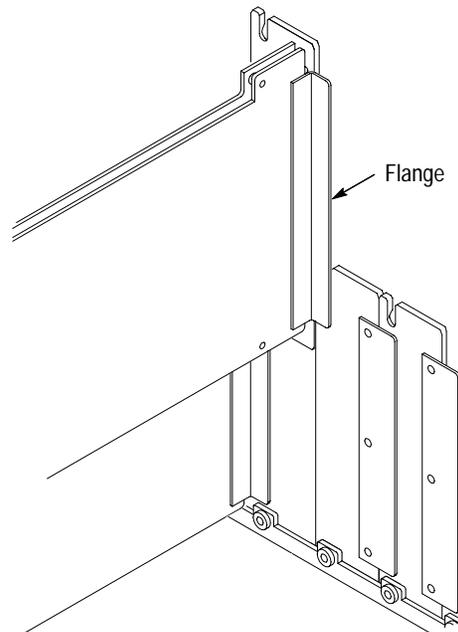
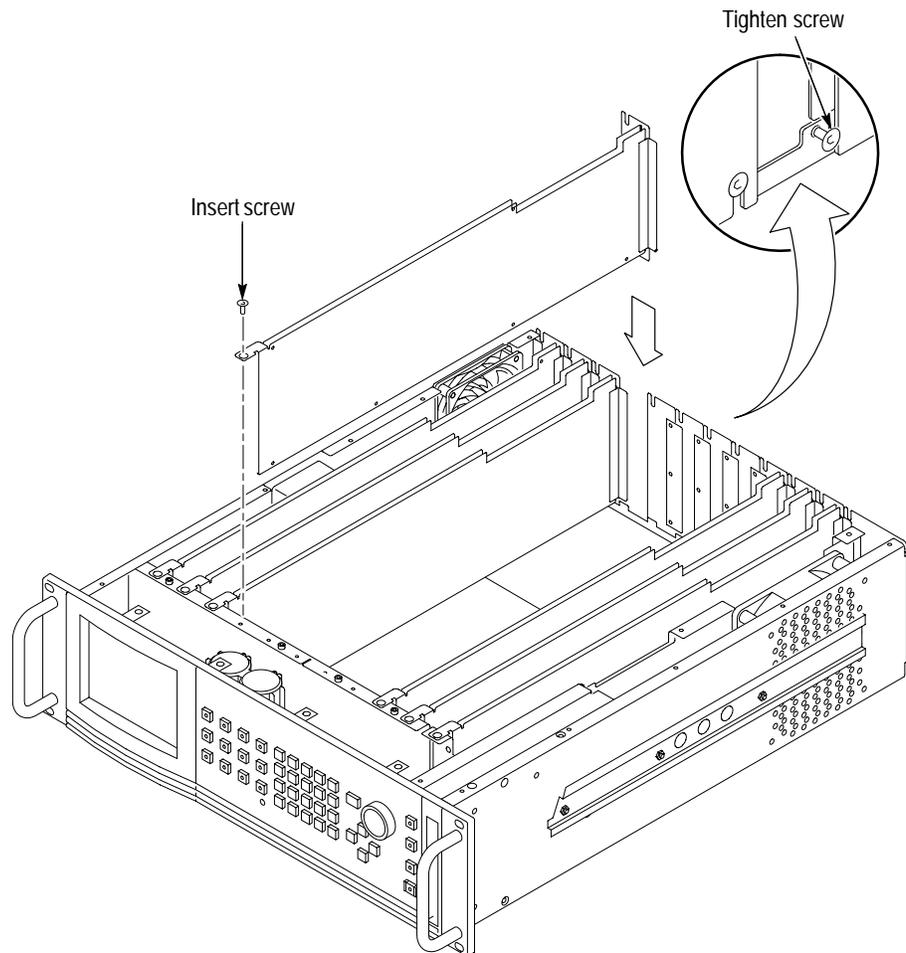

Figure 2-4: Module flange
Figure 2-5: Module Installation
6. While ensuring correct alignment of the module flange as shown in Figure 2-4, lower the module into the desired slot as shown in Figure 2-5.